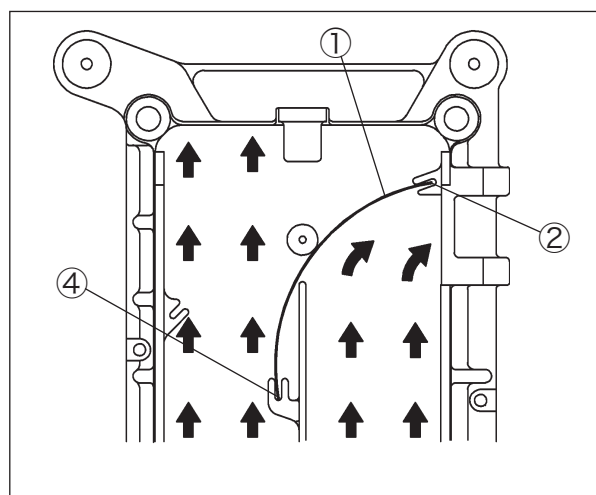

Fig. 7-3
For high speed and less dust during sewing, insert the air deflector ① into the guides ②④. (See Fig. 7-3)